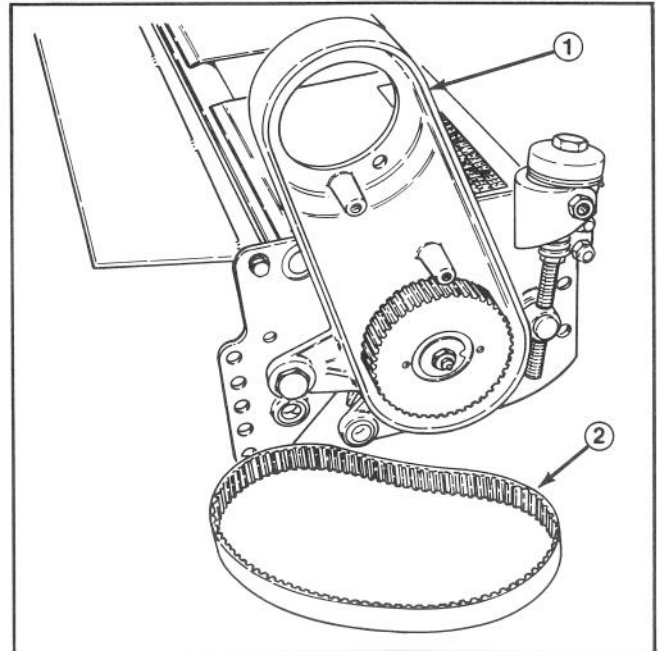

Figure 28
5. Disassemble the cover from the drive housing and remove the drive belt from the housing (Fig. 28).
10. Ensure the slot in the pulley washer is aligned with the roll pin in the pulley and install the washer, toothed washer and reel capscrew (Fig. 28). Apply a medium strength thread locking compound to the reel capscrew during assembly. Torque the capscrew to 45 - 55 ft.-lbs.